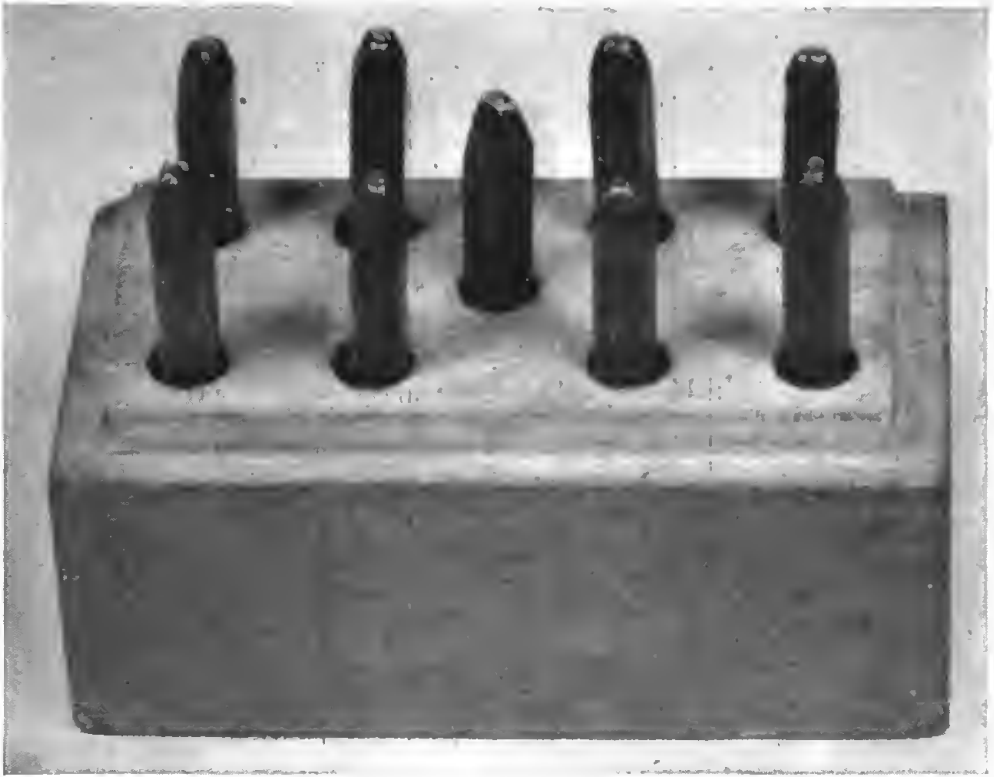

Figure 176. Set of figures.
d. FIGURE AND LETTER STAMPS. (1) A set of figure and letter stamps includes one each of all the letters in the alphabet, one each of the numbers 0 through 9, and the figure &. Each stamp is a steel die about 3 inches long with a character shaped on its face. (See fig. 176.) The face is hard steel. The stamps are used to cut identification marks into materials and tools.